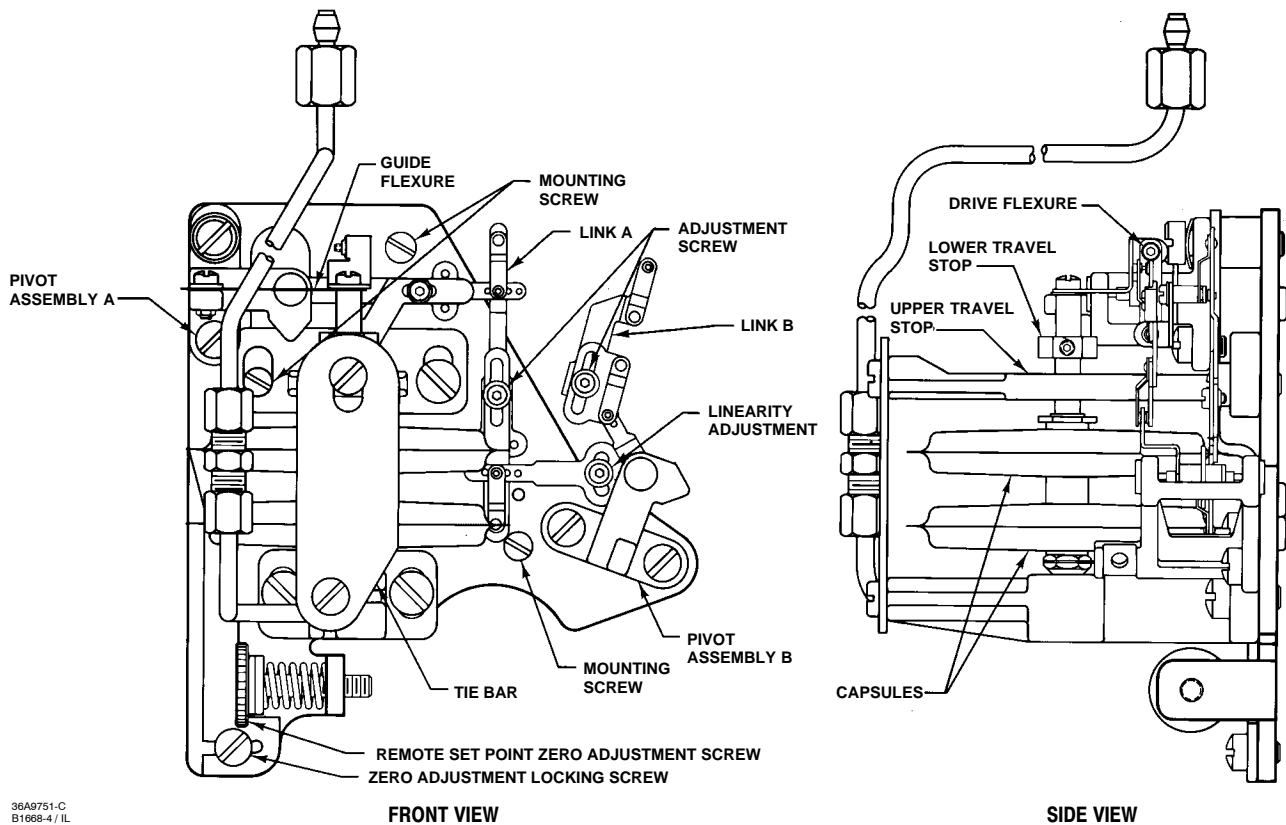

Figure 6-23. Remote Set Point (suffix letter M) Parts and Adjustment Locations
Use the following procedures to replace the remote set point assembly. Figure 6-23 shows the part locations. Refer to figure 7-6 for key number locations.
3. Remove the pressure connection (key 93) at the pedestal assembly (key 105). Use two 5/16 inch wrenches.
4. Disconnect link B (key 126) from the connection hole on the set point indicator.
5. Remove the three mounting screws (keys 120 and 140) that attach the remote set point assembly to the process/set point indicator assembly. Figure 6-23 shows the mounting screw locations.
Figure 6-23 shows the parts and adjustment locations. Refer to figure 7-6 for key number locations.
2. Remove the two screws (key 103) and remove the tie bar (key 106).
3. Note where link A is connected. Disconnect link A (key 116) from the lever arm on pivot assembly A (key 114).
4. Disconnect the drive flexure (key 79) from the adjustment arm of pivot assembly A. Be careful not to bend or kink the drive flexure.
5. Remove the screw (key 122), washer (key 123), and nut (key 124) that attach the guide flexure (key 119) to the top of the pivot assembly.
6. Remove the pivot screw and spring washer (keys 109 and 112) and the mounting screw (key 102) attaching the pivot assembly to the mounting plate (key 111). Lift out pivot assembly A.
7. Loosen the adjustment screw (key 118) on the adjustment arm of the replacement pivot assembly, and set the arm to the same length as the arm on the pivot assembly being replaced. Tighten the screw.
8. To replace the pivot assembly, first put the spring washer (key 112) on the screw (key 109). Then, insert the screw through the replacement pivot assembly and into the mounting plate and tighten. Install the mounting screw (key 102) and tighten.
9. Connect the guide flexure (key 119) to the top of the replacement pivot assembly with the screw (key 122), washer (key 123), and nut (key 124) as it was before. The guide flexure should be straight and horizontal as shown in figure 6-23. If not, loosen the screws (key 122) and retighten to eliminate any bowing. Loosen the screws (key 139) and raise or lower the pedestal assembly (key 105) to get the link horizontal. Retighten the screws (key 139) and ensure the diaphragm assembly extension (key 134) is centered in the upper travel stop (key 83) hole.
This procedure describes link A (key 116) replacement in the remote set point assembly. Figure 6-23 shows the link location.
1. Note the holes where link A is connected. Disconnect link A (key 116) from the lever arms on pivot assembly A and pivot assembly B.
3. Refer to figure 6-23 for the correct link orientation. Attach the replacement link A to the two lever arms in the same holes noted in step 1.
This procedure describes link B (key 126) replacement in the remote set point assembly. Figure 6-23 shows the link location.
1. Note the holes where link B is connected. Disconnect link B (key 126) from the pivot arm and from the set point indicator.
3. Refer to figure 6-23 for the correct link orientation. Attach the replacement link B to the pivot arm and to the set point indicator in the same holes as noted in step 1.
Refer to figure 6-23 for parts and adjustment locations. Refer to figures 7-1 and 7-6 for key number locations.